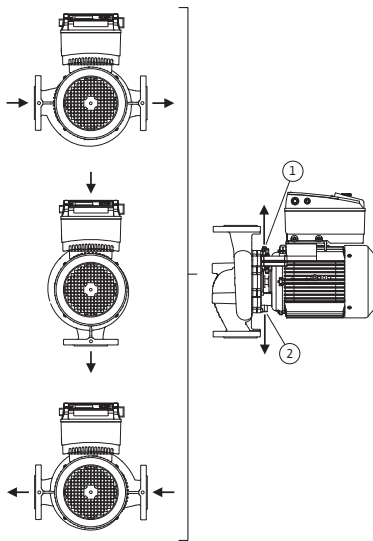

Fig. 18: Permitted installation positions with horizontal motor shaft
The permitted installation positions with horizontal motor shaft and electronic module facing up (0°) are shown in Fig. 18. The permissible installation positions with electronic module mounted on the side (+/-90°) are not shown. Any installation position is allowed except for “electronic module facing down” (-180°). The venting of the pump is only ensured when the air vent valve is pointing upwards (Fig. 18, Item 1).
Only in this position (0°) can condensate be directed away via an existing drilled hole, pump lantern and motor (Fig. 18, Item 2).
- With a horizontal motor shaft, the condensate hole must be positioned towards the bottom (Fig 18, Item 2). If necessary, the motor must be turned accordingly.